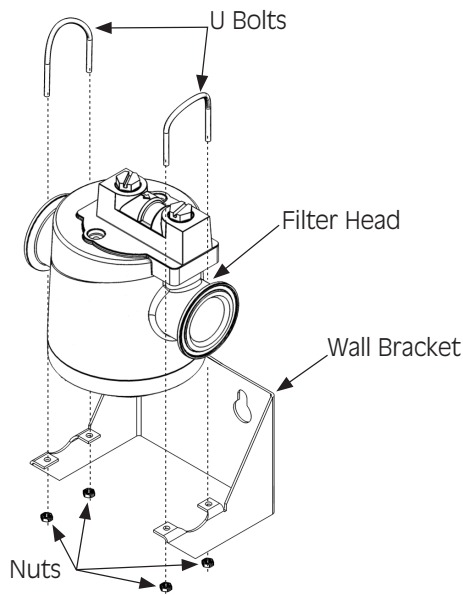

Figure 1.1
- (1) Mount bracket as shown on wall or other structure using the holes provided on the back (hardware not included).
- (2) Set filter on bracket, resting inlet and outlet nozzles on the curved portions.
- (3) Insert two U bolts (supplied) as shown in Figure 1.1 through the holes in the bracket.
- (4) Add 4 nuts (supplied) to the U bolts and tighten until snug.